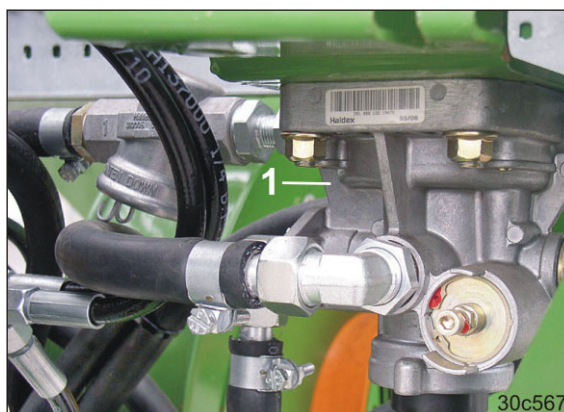

Fig. 127
- a trailer brake valve (Fig. 127/1).